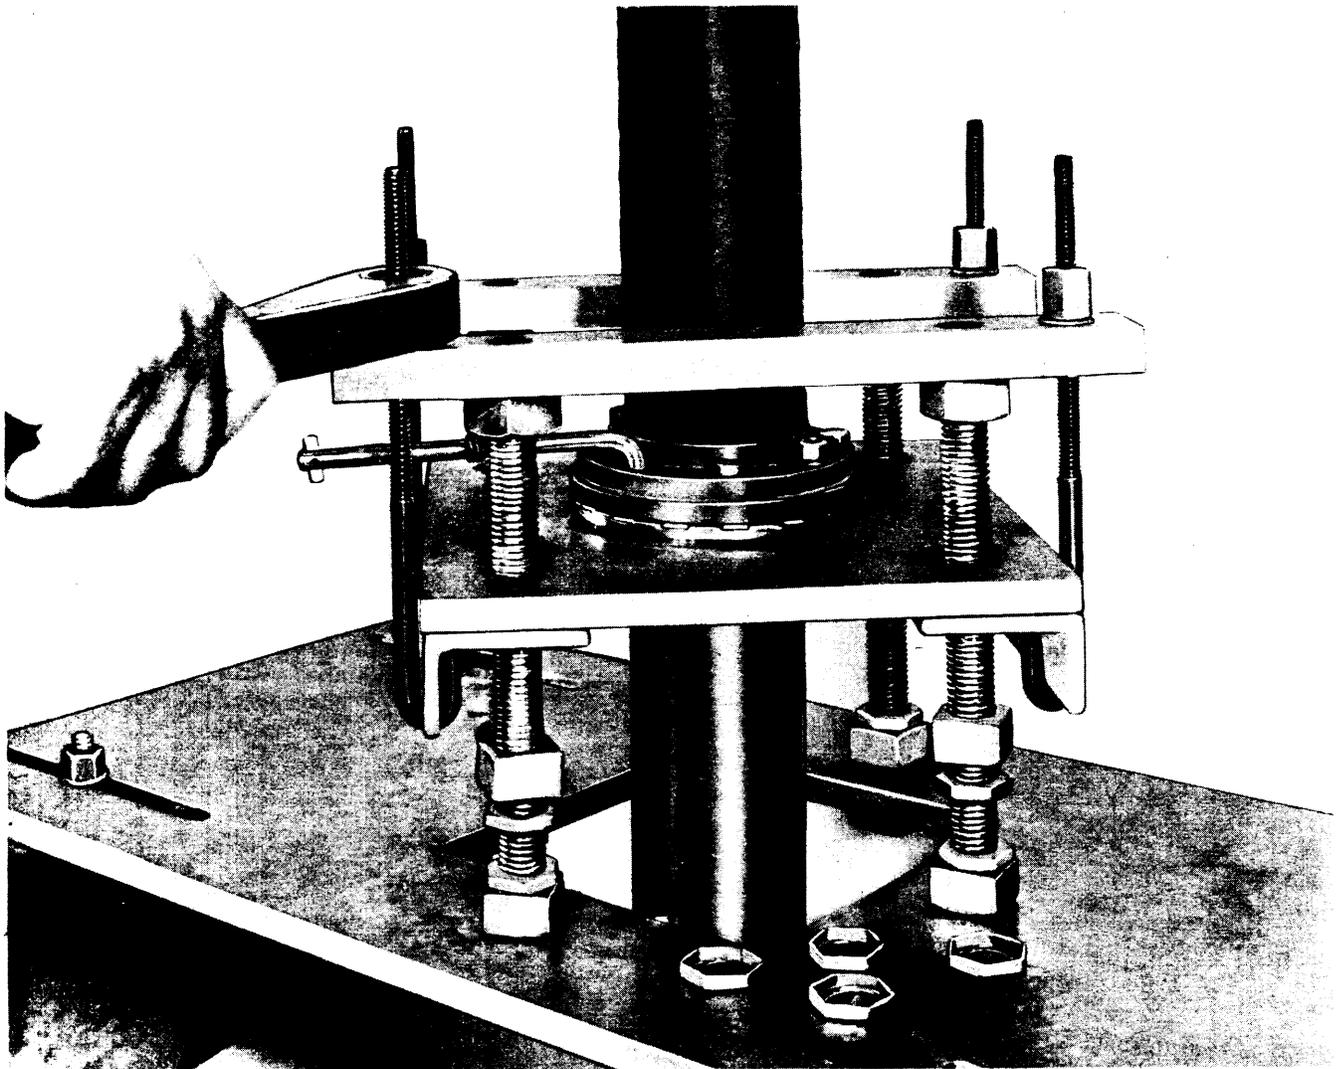

Fig. 5—"J"-bolt Jack L-501609 in Place on Waveguide Hanger Plate
**2.01** The "J"-bolt jack assemblies are used to facilitate raising or lowering the circular waveguide hanger plate. This assembly is shown in place in Fig. 5.
**2.02** The four "pal-nuts" which lock the 3/4-inch nuts on the top of the hanger plate are temporarily removed. The 3/4-inch nuts are then backed off to support the bar of the jack assembly (Fig. 5). The "J" bolts are then hooked to the angle iron member of the hanger plate. The nuts on the "J"-bolts are then tightened sufficiently to transfer the waveguide load weight from the hanger plate lower 3/4-inch nuts to the "J"-bolts.
**3.03** When necessary to use the guide pin on the hanger plate waveguide flange, the plain end of the guide pin may be used. An example of this use is illustrated in Fig. 5.